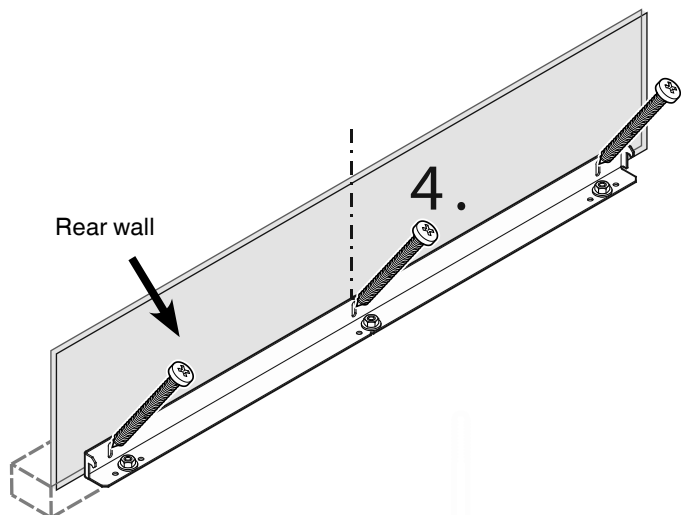

Figure 5
4. Fasten the anti-tipping bracket to the rear wall (**figure 5**) using 3 screws (6 x 60).